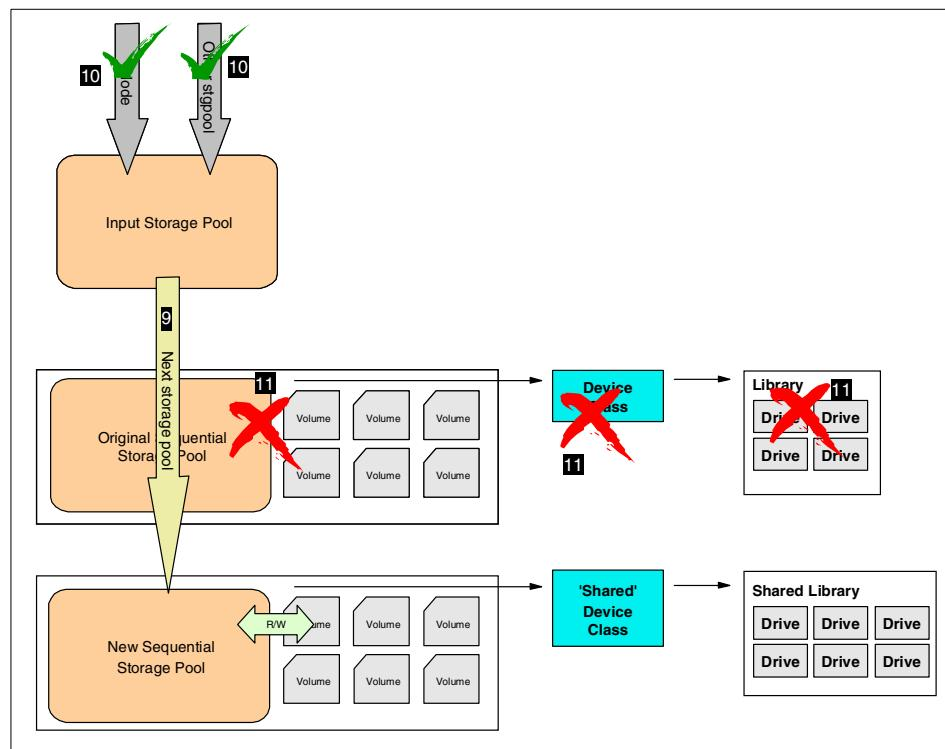

Figure 82. Finalizing definitions and cleanup
- c. After the migration process completes, update the original input storage pool so that it uses the newly defined storage pool as next storage pool (see Figure 82). Also reset the HIGHMIG and LOWMIG values to their original values (9) (they were set to 100 in step • on page 169).
5. Re-enable the server for client sessions (10), unlock previously locked administrators, and reactivate the administrative schedules.
- After completing these steps, your server is ready for operations. The only thing that is still necessary is to clean up all server objects that are no longer used. These include the original library and drives, the device class, the storage pools, and the volumes (11).